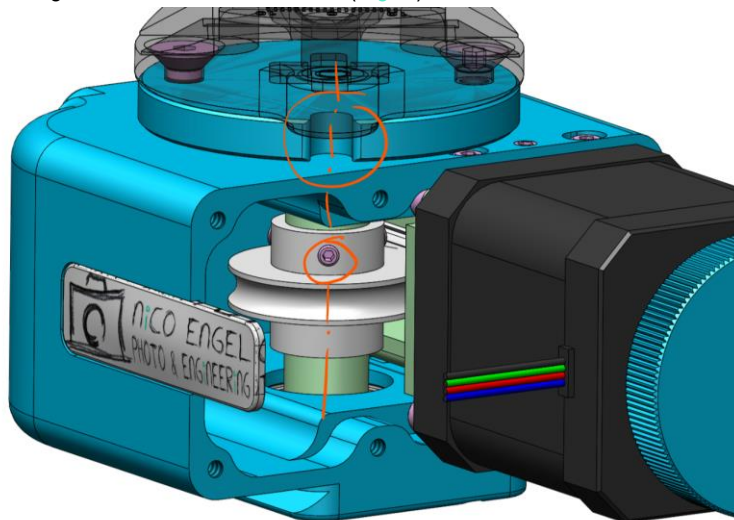

Fig. 7
4. looking inwards, the worm wheel (Fig. 7) becomes visible on the turntable.
6. three spanner surfaces distributed over 120° are also milled on the turntable shaft. One of them points exactly in the direction of the clearance on the top of the turntable (Fig. 7).